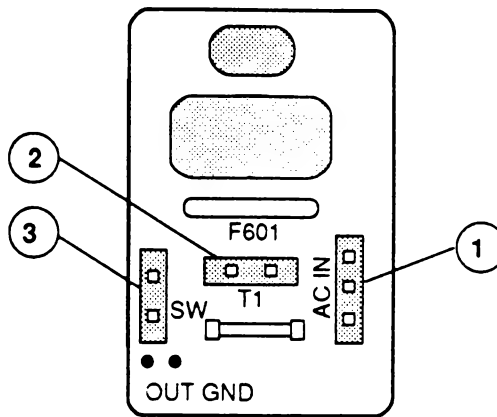

FIGURE 18
- AC IN (Figure 18, #1)
- T1 (Figure 18, #2)
- SW (Figure 18, #3)